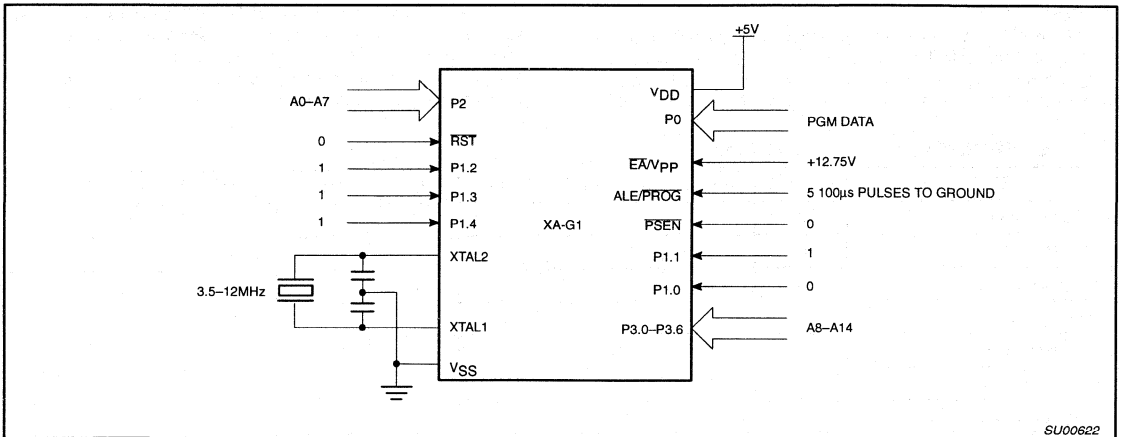
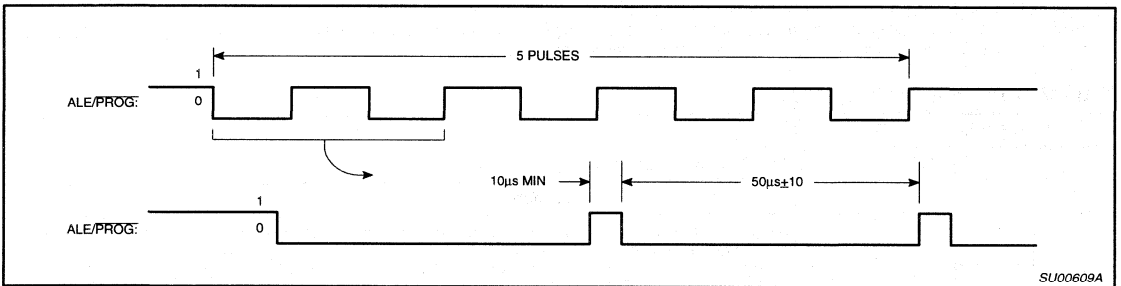
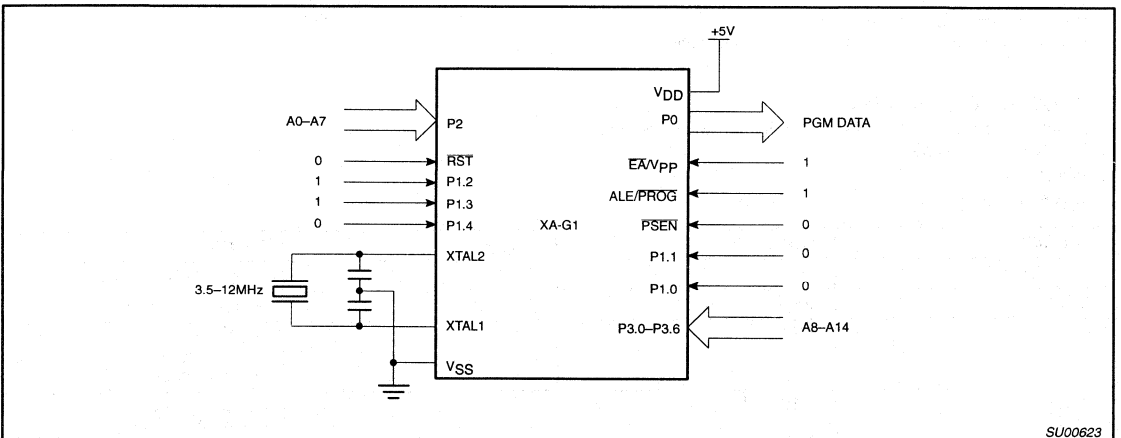

Figure 31. Programming Configuration for XA-G1
Figure 32. PROG Waveform
Figure 33. Program Verification for XA-G1
Table 6 shows the logic levels for reading the signature byte, and for programming the code memory and the security bits. The circuit configuration and waveforms for quick-pulse programming are shown in Figure 31. Figure 33 shows the circuit configuration for normal code memory verification.
The setup for microcontroller quick-pulse programming is shown in Figure 31. Note that the XA-G1 is running with a 3.5 to 12MHz oscillator. The reason the oscillator needs to be running is that the device is executing internal address and program data transfers.
The address of the EPROM location to be programmed is applied to ports 2 and 3, as shown in Figure 31. The code byte to be programmed into that location is applied to port 0. RST, PSEN and pins of port 1 specified in Table 6 are held at the 'Program Code Data' levels indicated in Table 6. The ALE/PROG is pulsed low 5 times as shown in Figure 32.
If security bits 2 and 3 have not been programmed, the on-chip program memory can be read out for program verification. The address of the program memory locations to be read is applied to ports 2 and 3 as shown in Figure 33. The other pins are held at the 'Verify Code Data' levels indicated in Table 6. The contents of the address location will be emitted on port 0.
* FOR PROGRAMMING CONDITIONS SEE FIGURE 32.
FOR VERIFICATION CONDITIONS SEE FIGURE 33.